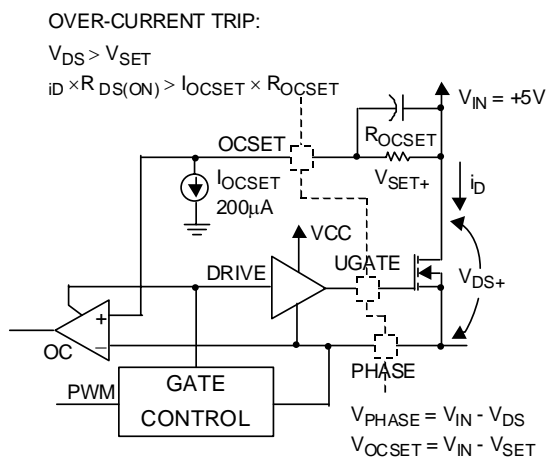

Fig.6 Current Limiting Setting
An external resistor (R_{OCSET}) programs the over-current trip level for the PWM converter. As shown in Fig.6, the internal 200 μ A current sink (I_{OCSET}) develops a voltage across R_{OCSET} (V_{SET}) that is referenced to V_{IN} . The DRIVE signal enables the over-current comparator (OC). When the voltage across the upper MOSFET ($V_{DS(ON)}$) exceeds V_{SET} , the over-current comparator trips to set the over-current latch. Both V_{SET} and V_{DS} are referenced to V_{IN} and a small capacitor across R_{OCSET} helps V_{OCSET} track the variations of V_{IN} due to MOSFET switching. The over-current function will trip at a peak inductor current (I_{PEAK}) determined by: